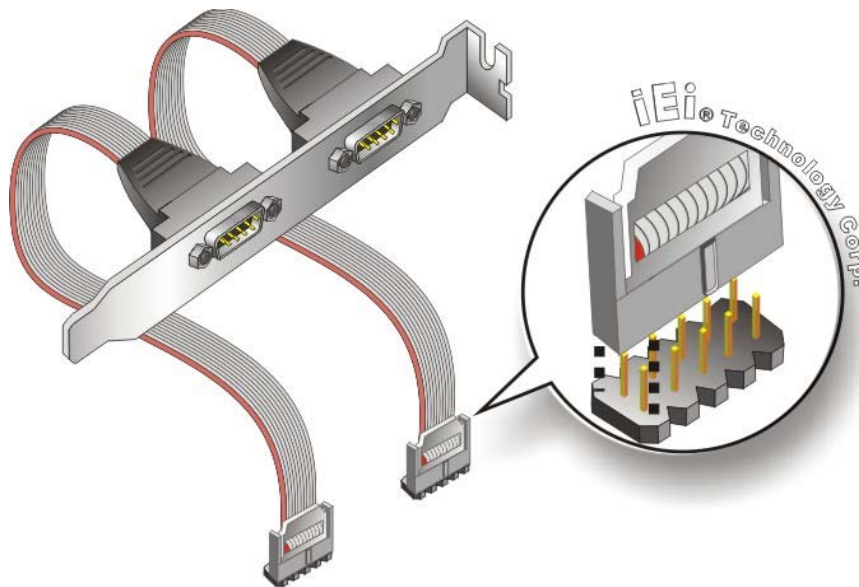

Figure 4-15: Dual RS-232 Cable Installation
Step 2: Insert the cable connectors. Insert one connector into each serial port pin headers. See Figure 4-15.